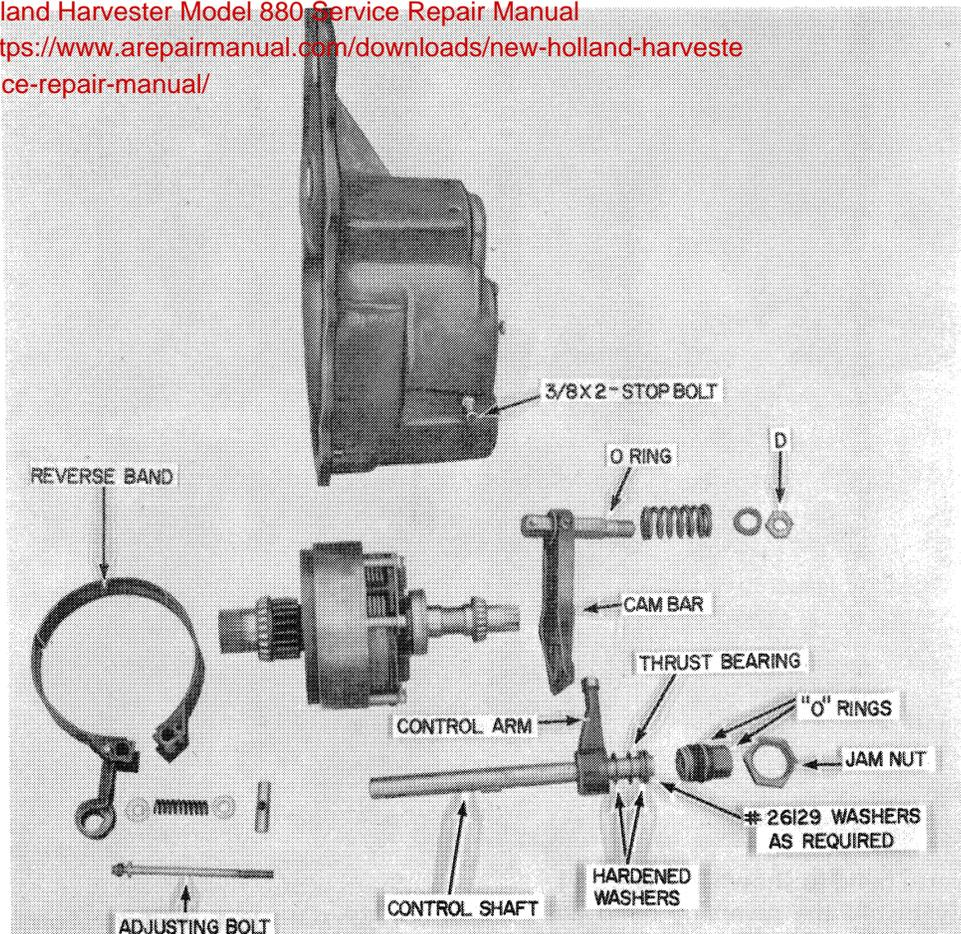

FIGURE 9
- F. The cam bar weld assembly is serviced by removing nut D and lock washer shown in Figure 9.
- G. The control shaft must be removed in order to service the cam follower bearing. Use care when removing the control shaft due to special hardened washers and thrust bearing shown in Figure 9.
Install two woodruff keys #15-1/4 x 1 in the control shaft; slide the control arm into position as shown in Figure 9. Secure the control arm by using 5/16 x 1 cone point set screw and jam nut. (Note: The set screw seats into a detent in the shaft.) Also, install 3/8 x 2 bolt
4. Secure the cam bar to stud shaft with 5/16 x 1-3/4 Type A grooved pin. Install "O" ring on the stud shaft as indicated in Figure 9. Place spring on the stud shaft and install as shown in Figure 10. Secure the stud shaft with lock washer and nut. The cam bar must be centered between the guide tabs as indicated in Figure 10. Securing nut must be positioned for belt installation.